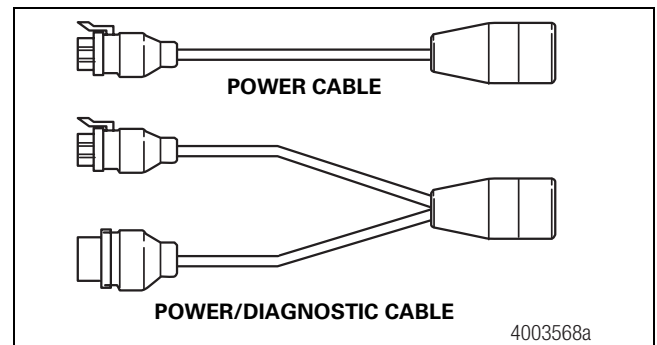

Figure 22
1. Identify the type of cable to be installed. Figure 22.